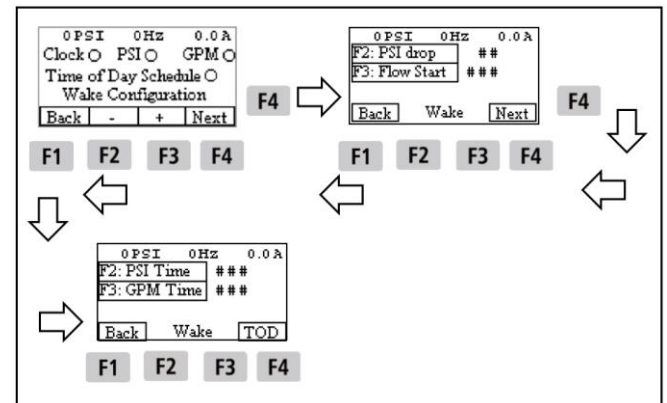

Figure 12-14. Adjusting Wake Parameters.
8. Press the **F4** Next key to get to the first Wake Configuration settings screen (see Figure 12-14).
10. From the first Wake Configuration settings screen, press the **F3** Flow Start key. The number to the right of F3 Flow Start is used to set the Flow Switch. This setting may be changed using Method 2 outlined in **11 Setting Variable Frequency Drive Parameters** section. For a Flow Switch, set the number at 1. A Flow Switch is either ON (1) or OFF (0).
11. From the first Wake Configuration settings screen, press the **F4** Next key to advance to the second Wake Configuration screen (see Figure 12-14).